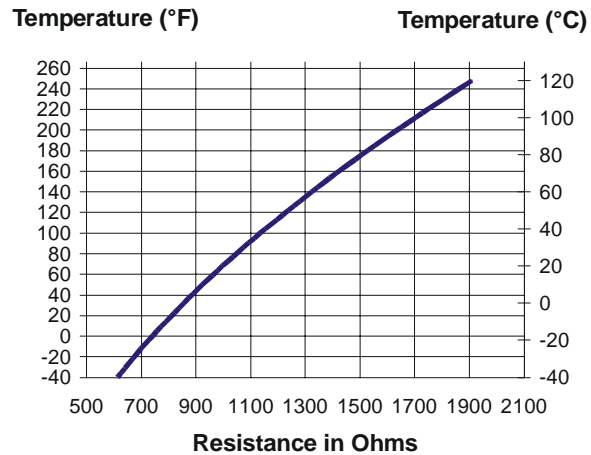

Figure 7: Temperature vs. Sensor Resistance
- e. Consult Figure 7 to verify that the measured temperature and resistance conform to established temperature and resistance values.
- f. If the measured values conform to the values in Figure 7, proceed to Step 3.